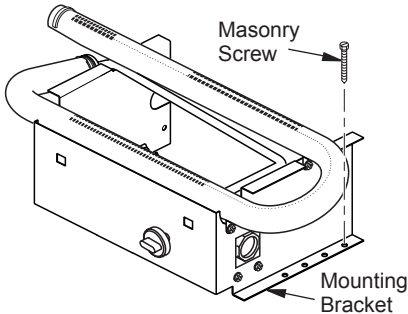

Figure 11 - Attaching Base Assembly to Fireplace Floor
mounting brackets (see Figure 11). If installing in a brick-bottom fireplace, mark screw locations in mortar joint of bricks.
10. Attach base assembly to fireplace floor using two masonry screws (in hardware package) (see Figure 11).